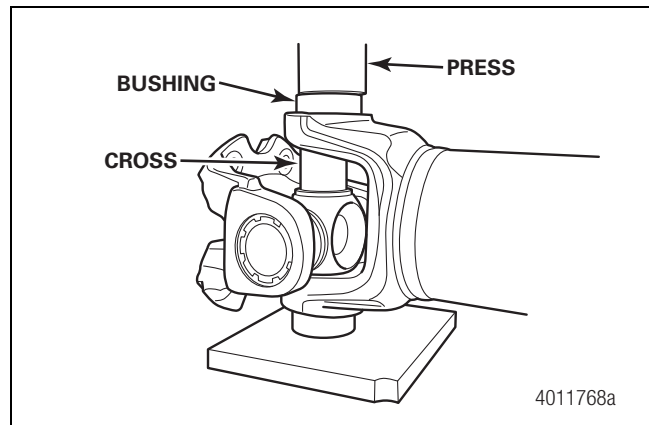

Figure 4.73
5. Use a press to press the top bushing/bearing assembly DOWN. Make sure the yoke is level so the bushing will be pressed straight down. Figure 4.73.